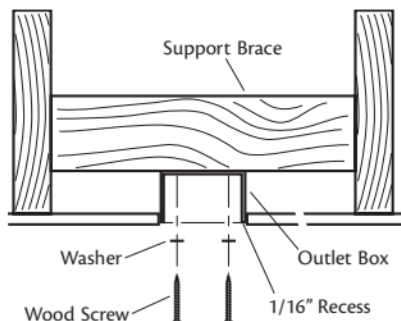

Figure 7 - Installing the outlet box
1. Attach a 2" x 4" support brace between two joists. The support brace must allow the bottom of the outlet box to be recessed a minimum of 1/16" into the ceiling. See Figure 7.
4. Attach the outlet box directly to the support brace or joist with two #8 x 1-1/2" wood screws and washers. The bottom of the outlet box must be recessed a minimum of 1/16" into the ceiling as shown in Figure 7.